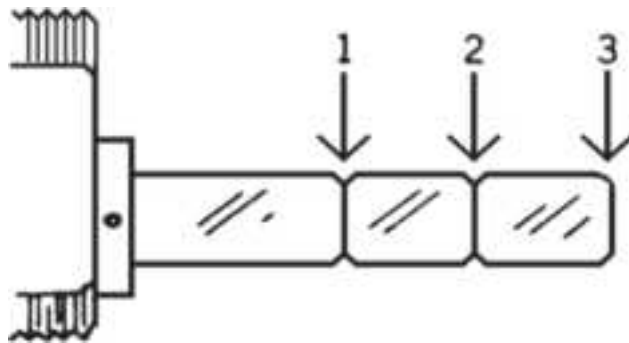

**Figure 18.20** Tailpiece break points. (*Simplex Access Controls Corp.*)
- With two pairs of pliers, break the tailpiece of the key cylinder at the proper location as indicated (Fig. 18.20): (1) for the Simplex 100 or 200 series locks when the riser plate is not used, (2) for 100 series when either  $\frac{1}{4}$ - or  $\frac{3}{8}$ -inch side of the riser plate is used, or with the 200 series locks when  $\frac{1}{4}$ -inch side of the riser plate is used, (3) for 200 series locks with  $\frac{3}{8}$ -inch side of riser plate, use full length of tailpiece.